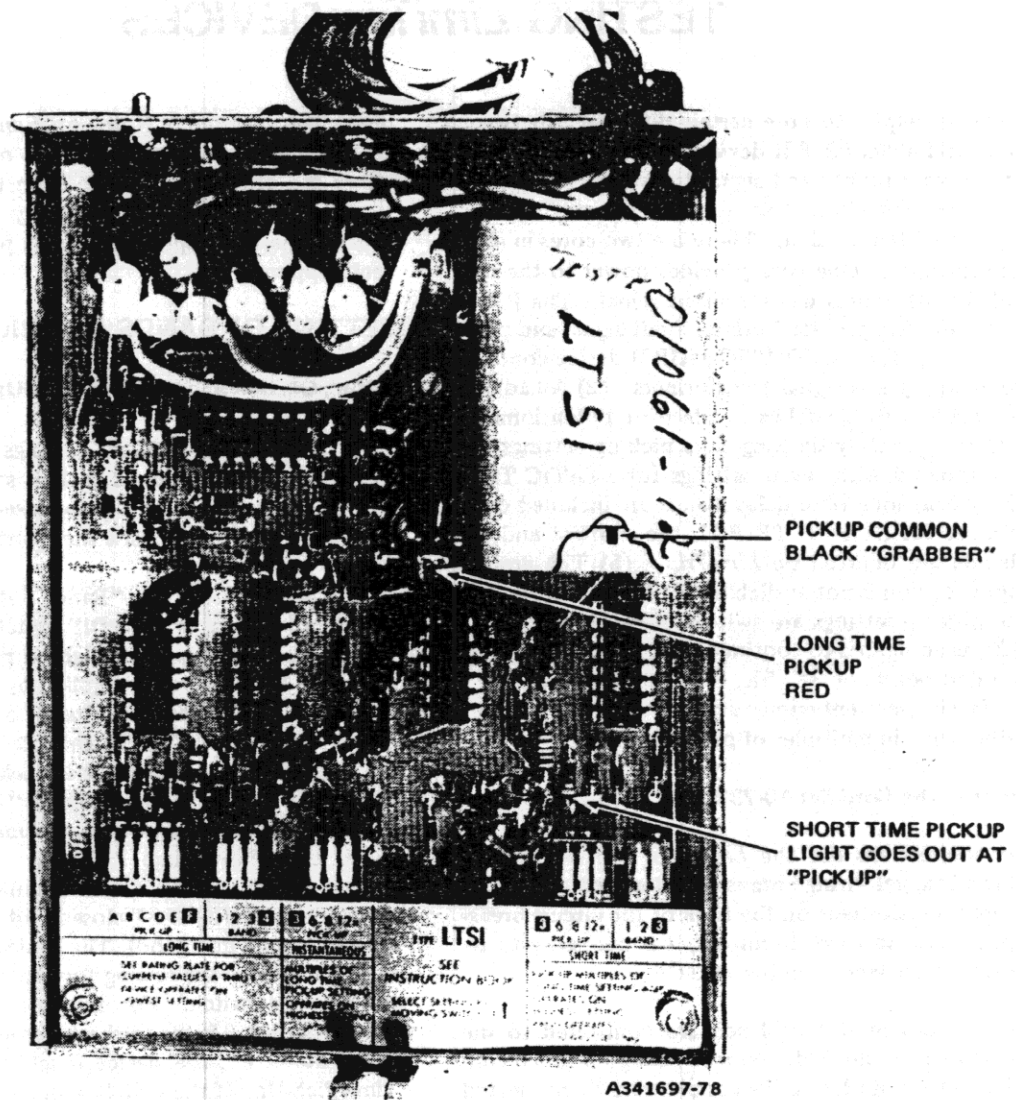

Figure 13. — LimiTrip Circuit Board showing test points
The trigger test points are not brought out on the *LimiTrip* device, so the cord set is provided with "Grabbers" to connect directly to the circuit board inside the device. See Figure 13 for the correct location of the test points. Connect the red "Grabber" to the long time pick-up test point and the black "Grabber" to the pick-up common test point. The red banana plug of the cord set connects to the jack assembly on the red leads of the trip device and the black banana plug to the jack assembly on the black leads of the device.
1. Connect the Red "GRABBER" to the Short Time Pick-Up test point. See Figure 13.
1. Connect the test set to the device as described under the heading "CONNECTIONS". Connect the red "Grabber" to the "Long Time Test Point" shown in Figure 13.